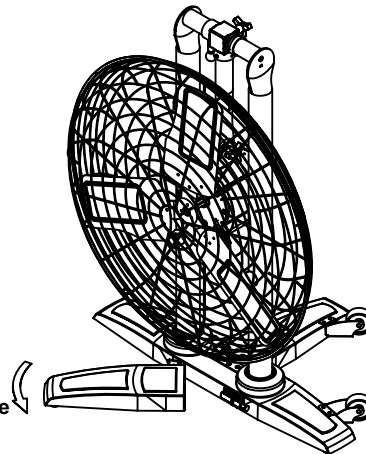

Figure 5
4. Reposition the rear footing support. See Figure 5.